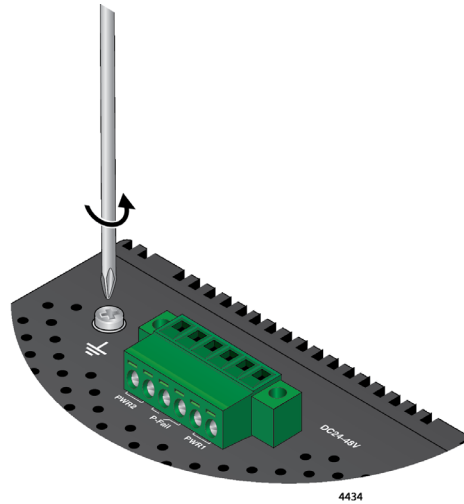

Figure 33. Loosen Grounding Screw
2. Loosen the grounding screw several turns with a #2 Phillips-head screwdriver. Refer to Figure 33 on page 79.